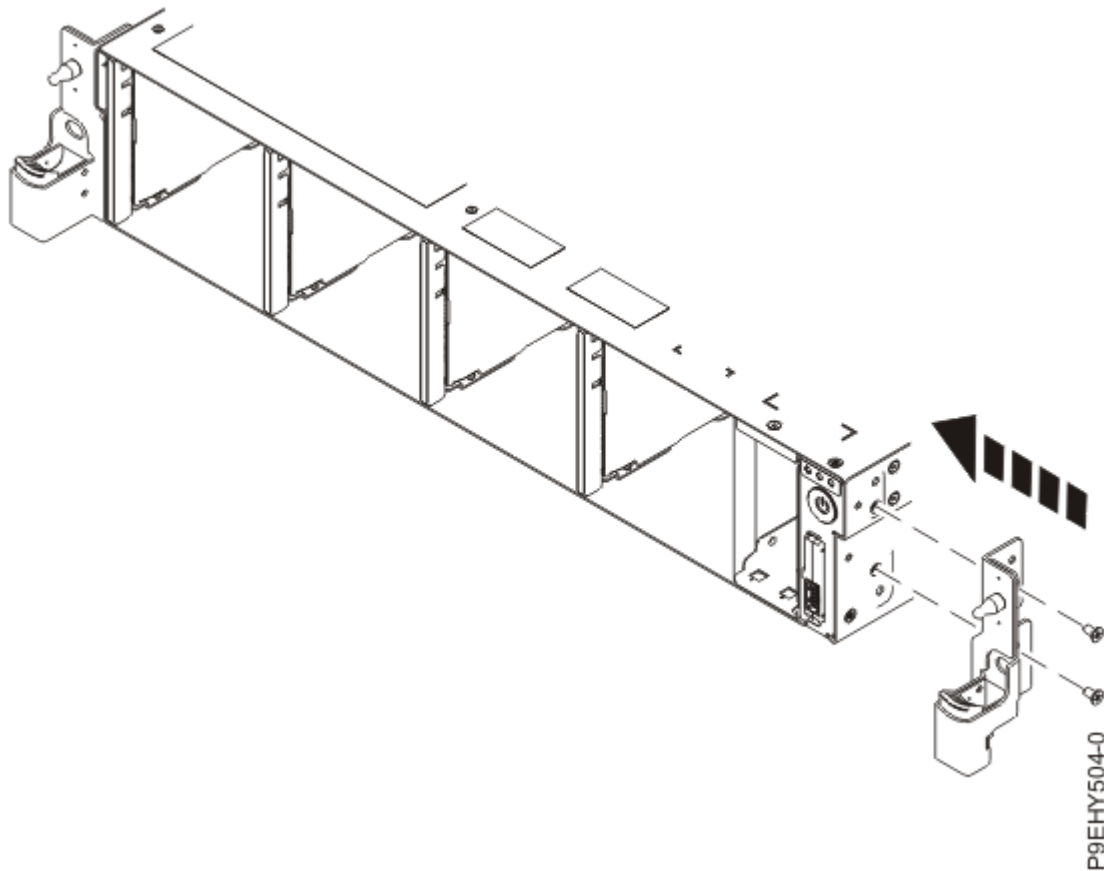

Figure 177. Replacing the rack installation support
7. Replace the rack installation support on the side of the system as shown in Figure 177 on page 193.